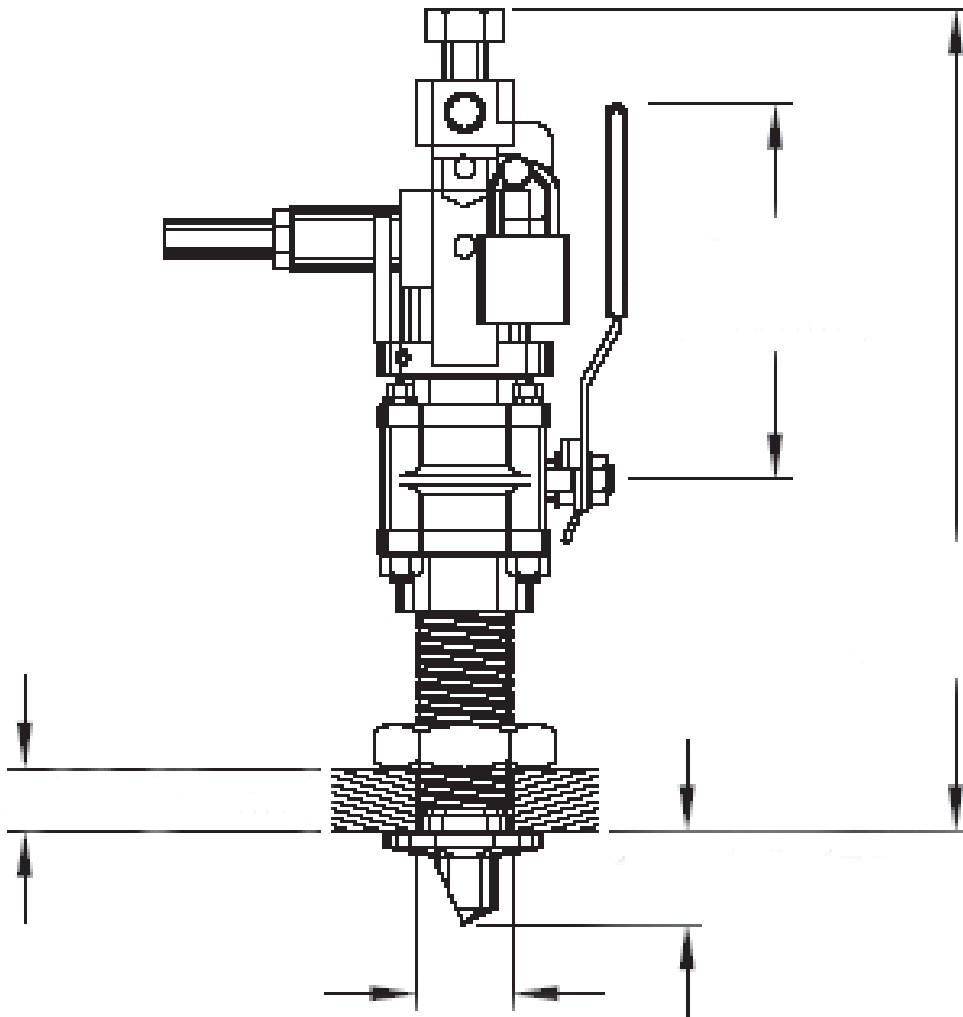

Figure 10-3 7600 Transducer
1. Verify the following three safety conditions are met below. See Figure 10-3 on page B-14. If any of these conditions is not met, STOP WORK on the transducer immediately and contact Accusonic for advice.
3. Remove the conduit clamp and gently pull the E-O connector out of the body of the transducer cable connector as shown in Figure 10-3 on page B-14.
**Caution:** Before leaving the transducer, be certain that the locking rod is fully engaged and padlocked and that the E-O connector is installed as shown in Figure 10-3 on page B-14.